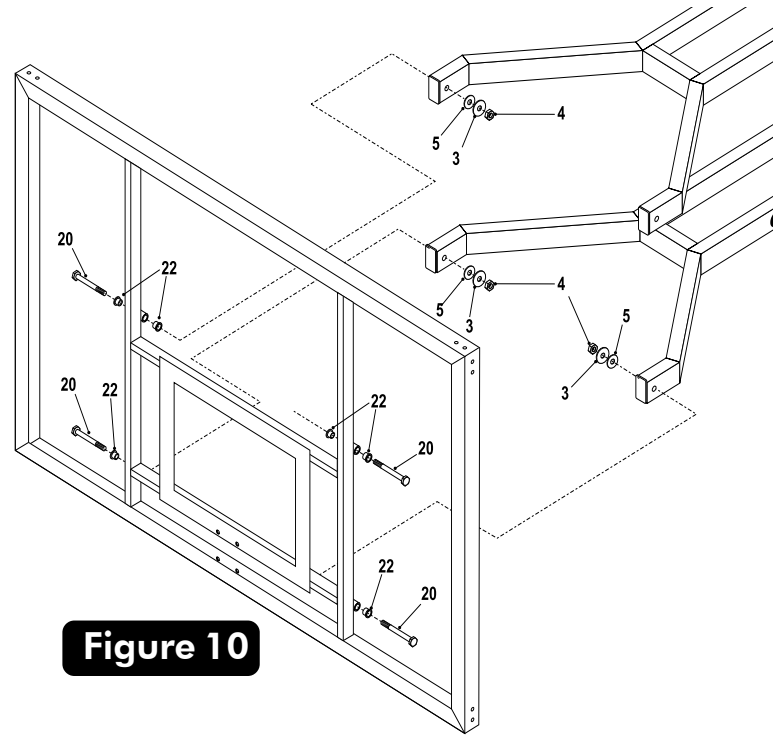

Figure 10
14. With at least three capable people, raise the backboard assembly up and have the fourth attach Lower Board Arms to lower mounting tubes on backboard using two bolts (#20), four Board Bushings (#22) (shipped already installed), two plastic washers (#5), two washers (#3) and two hex nuts (#4). See Figure 10.
15. Attach Upper Board Arms to upper mounting tubes on backboard using two bolts (#20), four Board Bushings (#22) (shipped already installed), two plastic washers (#5), two washers (#3) and two hex nuts (#4). See Figure 10.